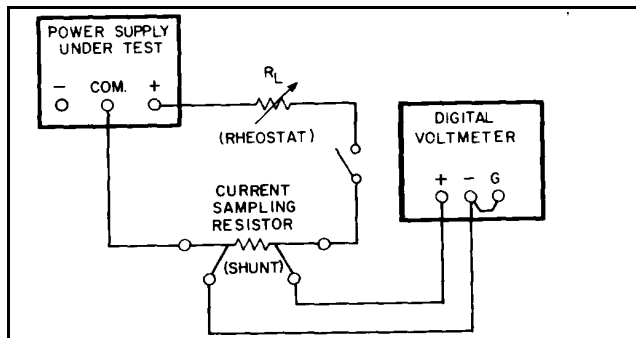

Figure 5-3. Output Current, Test Setup
g. Connect the test setup shown in Figure 5-3 to the +6V (or +18V) output. Make the total resistance of R_L and the current sampling resistor 2.4 ohms for the Model 6236B (or 18 ohms for the 6237B) to permit operating the output at full load. R_L should have a power rating of at least 20 watts.
k. Check the rated output and ammeter accuracy of the +20V and -20V supplies similarly by connecting the test setup of Figure 5-3 to each output in turn. For each 20V supply: make the total resistance of R_L and the current sampling resistor 40 ohms, set the $\pm 20V$ VOLTAGE control for a current indication, on the DVM of 0.5A, check that panel meter
m. Connect the test setup shown in Figure 5-3 to the +20 volt output. Substitute a short for R_L and leave the load circuit switch open.
Connect the test setup shown in Figure 5-3 to the +6V output. Close the switch, set the total resistance of R_L and the current sampling resistor to an initial value of 2.4 ohms or greater, and set the output voltage to 6 volts.